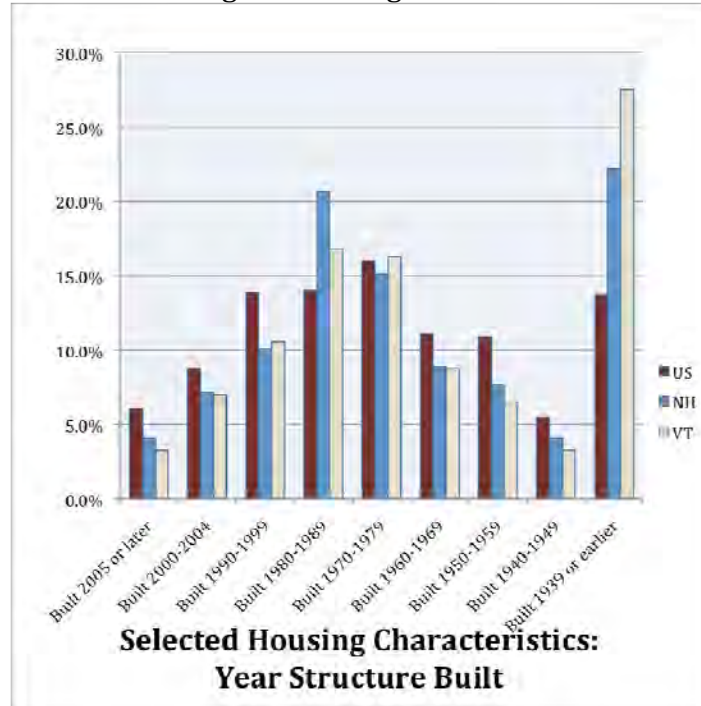

Figure 1: Comparison between US, VT and NH of Year Homes Built
- Figure 1: Comparison between US, VT and NH of year homes built